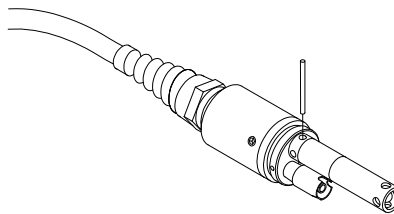

**Figure 3.4 O-ring Lubrication**
4. Apply a thin coat of o-ring lubricant (supplied in the YSI 5511 maintenance kit) to the o-rings on the connector side of the sensor (see Figure 3.4 O-ring Lubrication).